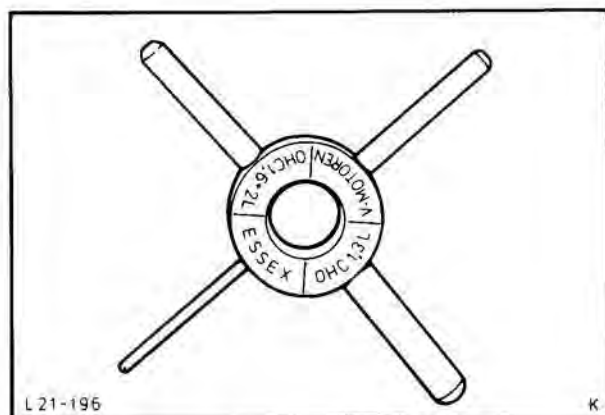

Fig. 225. Installer stop gauge
7. Select stop gauge according to engine variant, Fig. 225.